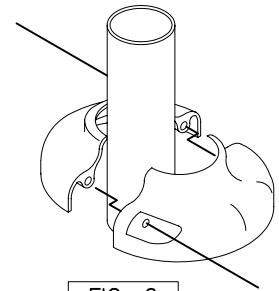

FIG. 6
Level bench if necessary and tighten all fasteners with wrenches. If mounting plate covers (E2) are used place them around legs and secure with 2 (H) screws, see FIG. 6. Bring the screws to a snug fit being careful not to over tighten.